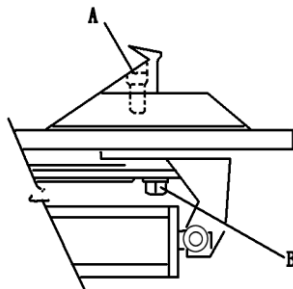

Fig 8.
- b. After the first 20days of work, retighten the clamp tightening screws and screws on the turntable slides (Fig 8.)